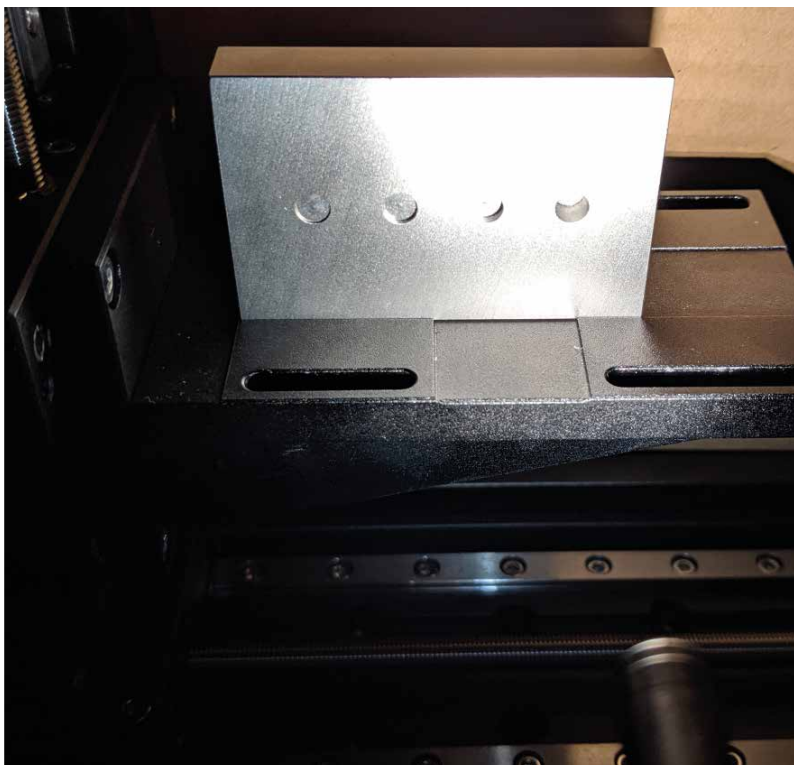

Fig. 1: (Left) 3D endoscope and holder. (Right) Measurement setup for a borehole specimen on a 3-axis motorized linear unit.
The images are captured by a 3D endoscope (Fig. 1). The stereo data is recorded synchronously via two horizontally shifted optical beam paths. The horizontal offset determines the stereo base and the size of the so-called stereo-parallax, which is decisive for the 3D impression and the theoretically achievable measurement accuracy. The design of 3D endoscopes is therefore subject to different requirements. The decisive parameters are the focal length, stereo base and sensor size. This leads to three practical configurations for stereo systems: (1) For 3D visualization, (2) precisely measuring 3D systems and (3) hybrid systems, which are equally designed for surveying tasks and for 3D visualization. 3D laparoscopes from medical technology are a good example of such a hybrid system and can be used both for